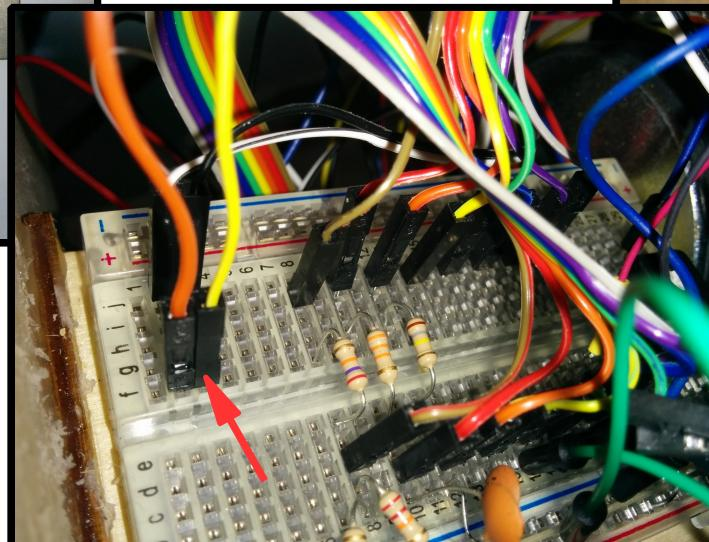

Fig. 5 - Speaker cables
- if you want to use the headphone jack as the only audio output, disconnect from the Matrix the 2 wires that are currently connected to the speaker [Fig. 5].